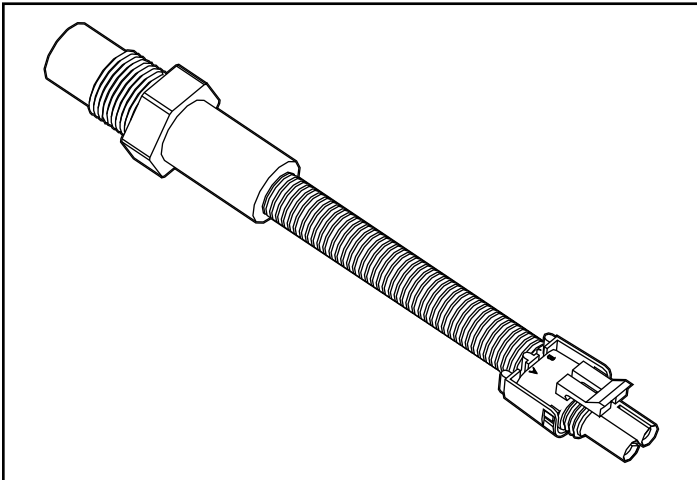

Figure 10
Step 1: Disconnect the thermoswitch harness (see Figure 10).